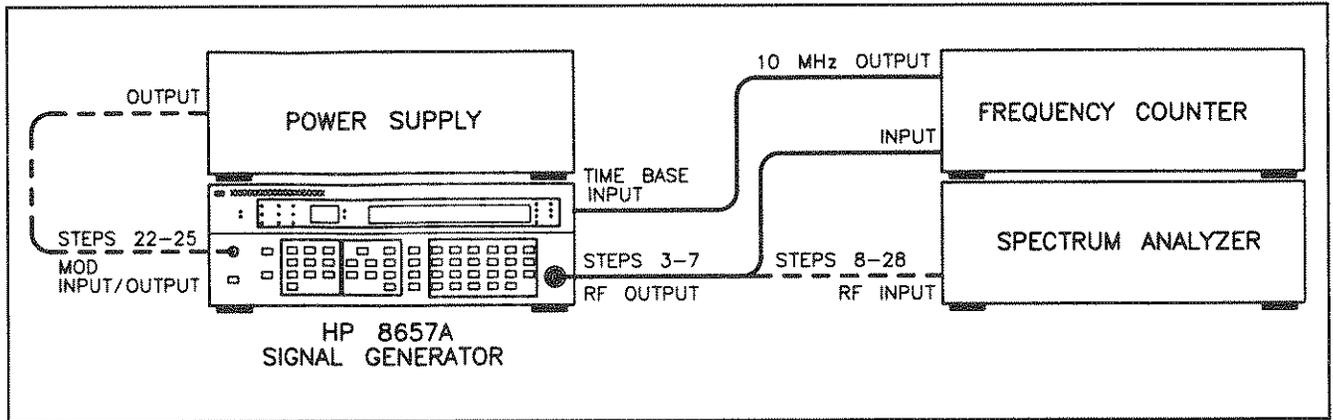

Figure 3-3. Test Setup for Basic Functional Checks
3. Connect the RF OUTPUT of the Signal Generator to the input of the frequency counter, and the 10 MHz reference output from the frequency counter to the TIME BASE INPUT located at the rear of the Signal Generator as shown in Figure 3-3.
8. Connect the RF OUTPUT of the Signal Generator to the input of the spectrum analyzer as shown in Figure 3-3.
24. Connect a power supply to the MODULATION INPUT/OUTPUT Connector of the Signal Generator as shown in Figure 3-3. Set the power supply for a +1 Vdc output and switch the voltage line on. Notice the LO EXT annunciator will remain on. The carrier frequency displayed on the Spectrum Analyzer should move three divisions to the right. The carrier frequency is offset by 60 kHz.